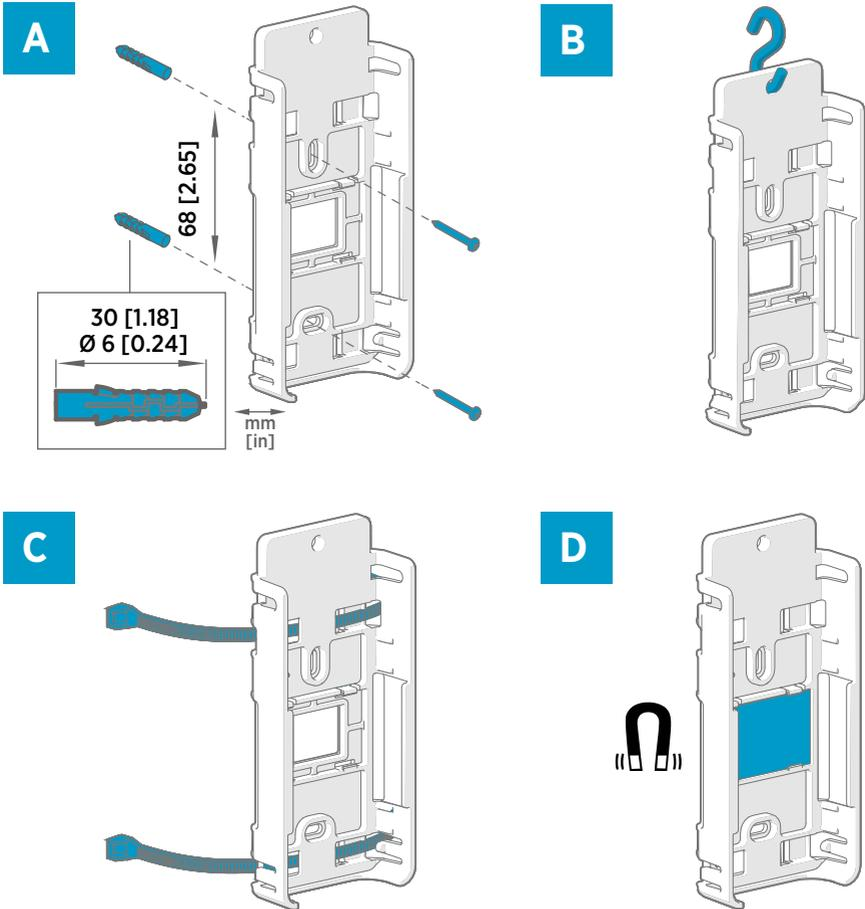

Figure 11 RFL100 mounting methods
2. Attach the mounting bracket using one of the mounting methods shown in Figure 11 \(page 38\). Orient the bracket vertically so that the probe or extension cable points down after installation. Do not attach RFL100 without the mounting bracket.